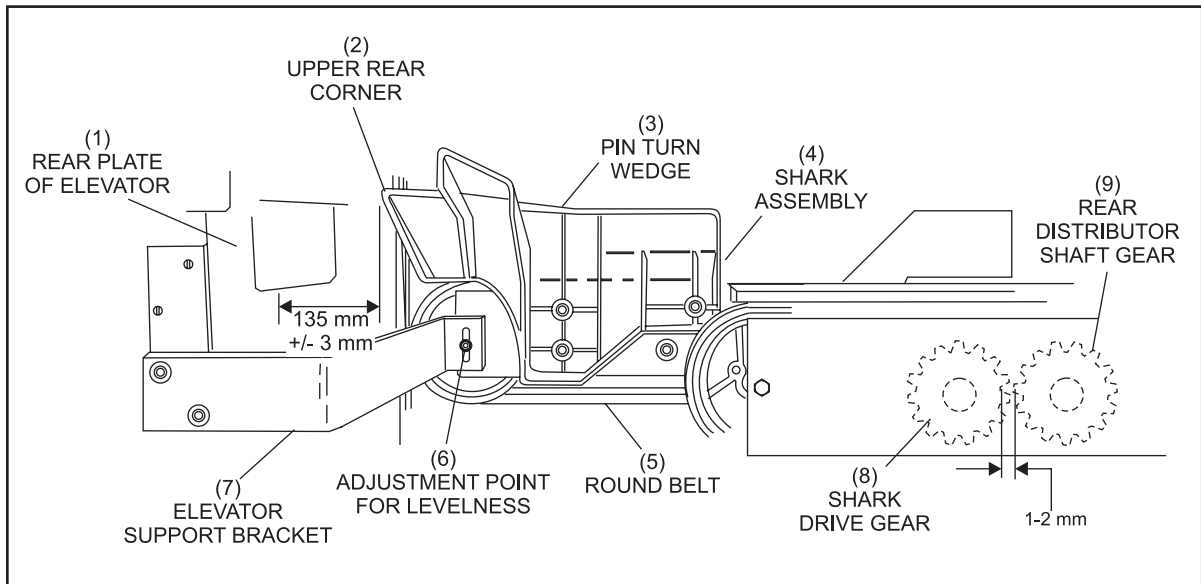
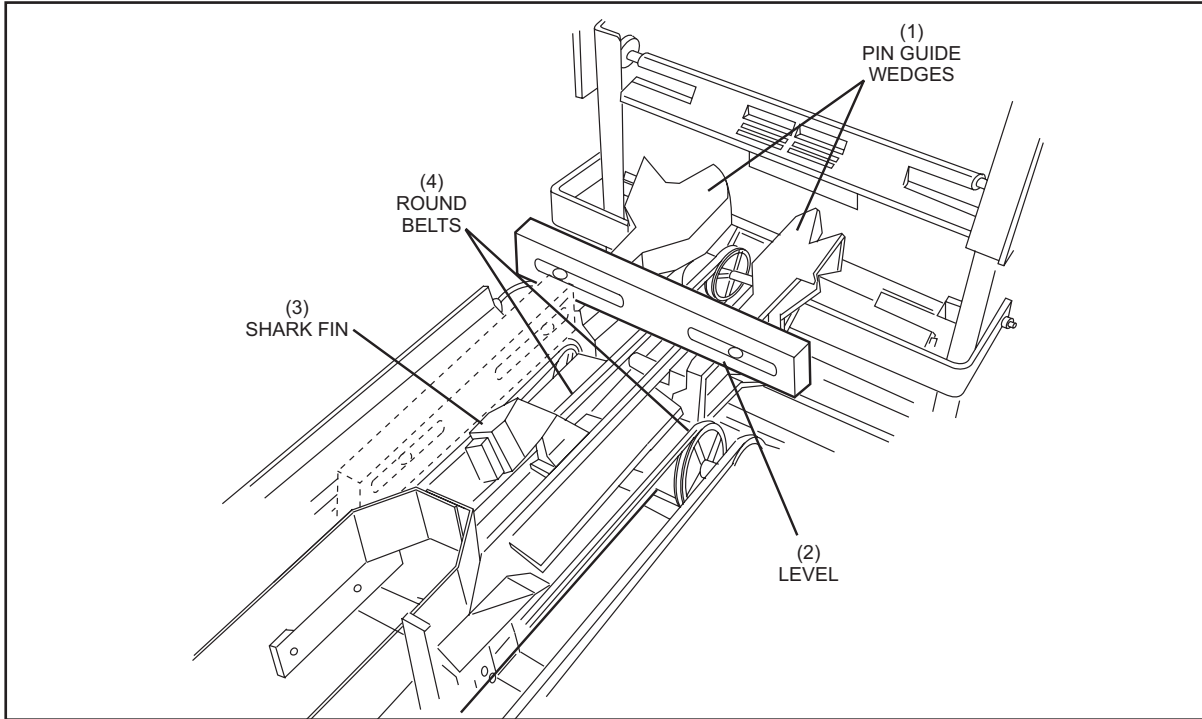
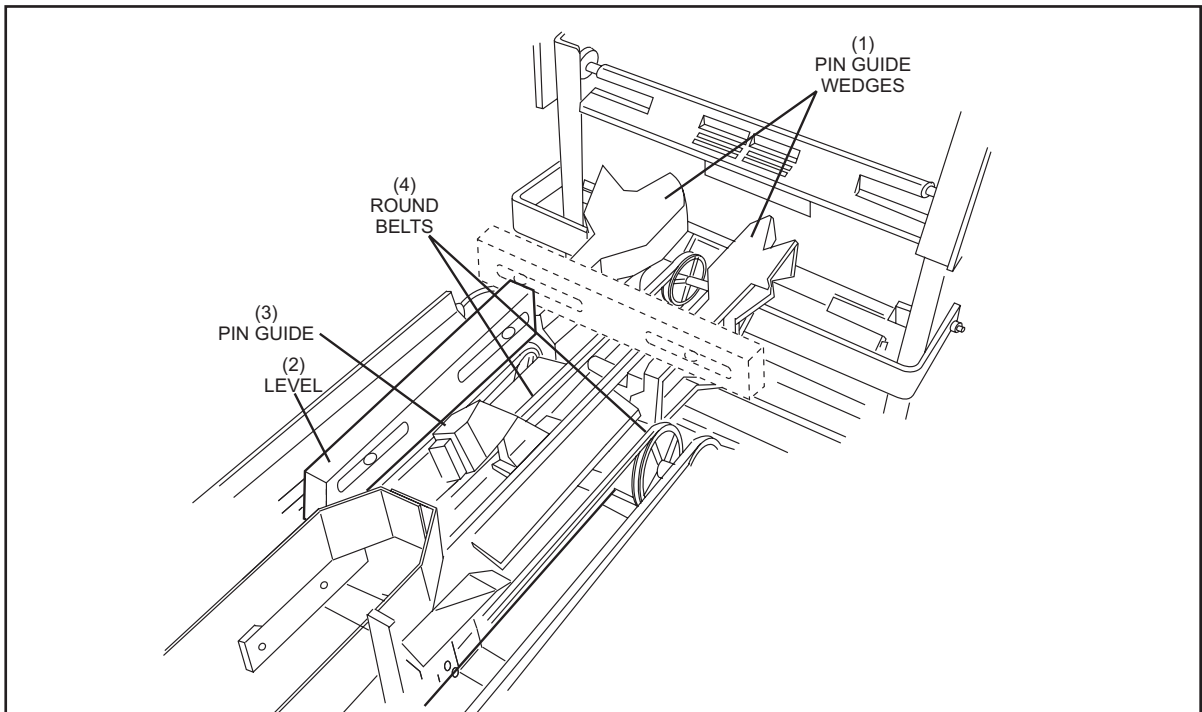

Figure 5-20. Pin Turn Wedge Positioning
Figure 5-21. Shark Switch Leveling Adjustment - Side to Side
Figure 5-22. Shark Switch Leveling Adjustment - Front to Back
The upper rear corner of each pin turn wedge must be 135 mm + 3 mm from the rear plate of the elevator and there must be approximately 1-2 mm tooth gap at the gears between the shark assembly and the distributor. To verify proper tooth gap, check for 1-2 mm of movement by manually moving the belt forward and backward. Refer to *Figure 5-20*. This will allow for the proper placement of the pins into the shark assembly.
1. Loosen the pin turn wedge mounting hardware and position the wedge to 135 mm. Retighten the hardware. Refer to *Figure 5-20*.
- Adjust the shark assembly so that the pin turn wedges are level side to side and up slightly from back to front. (Approximately 2 degrees or 1/2 bubble on the level). Refer to *Figure 5-21* and *Figure 5-22* to properly position the level and *Figure 5-20* for the adjustment location.